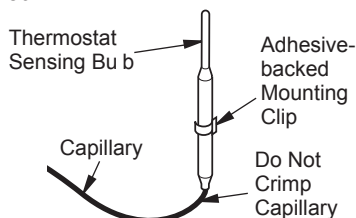

Figure 48 - Positioning the Thermostat Sensing Bulb in the Vertical Position with the Capillary at the Bottom
4. The mounting clip must be a minimum of 3" from bottom of fireplace to prevent crimping of capillary. Once you have decided on a location, clean the area thoroughly. Remove the paper backing from the adhesive on back of mounting clip. Press the clip into the new location so that the thermostat sensing bulb will be positioned vertically with the capillary at the bottom (see Figure 48). Slide the thermostat sensing bulb into the clip.